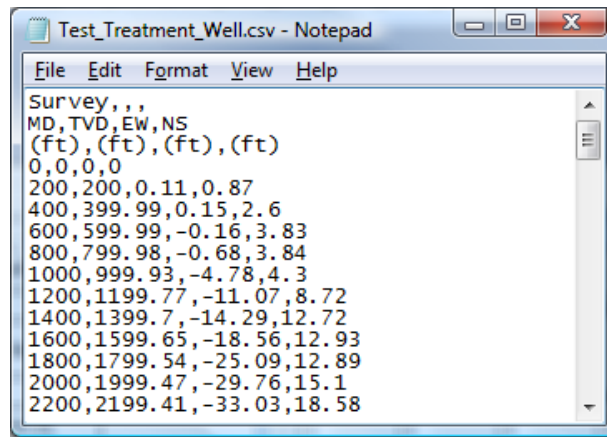

Figure 17-13: An example of a well survey file.
In case (1) a survey data file must first be located on the user's computer using the Browse function. Files with .txt or .csv extensions are available for selection. An example is shown in Figure 17-13. The file can have any number of header lines above column-formatted, survey-data rows. The file can also have multiple data blocks, each with a set of header lines and survey-data rows. Each data row may contain any number of columns, but the trajectory must be defined using values in either of the two following parameter sets:
- MD (Measured Depth), TVD (True Vertical Depth below well head), Easting (E) and Northing (N).